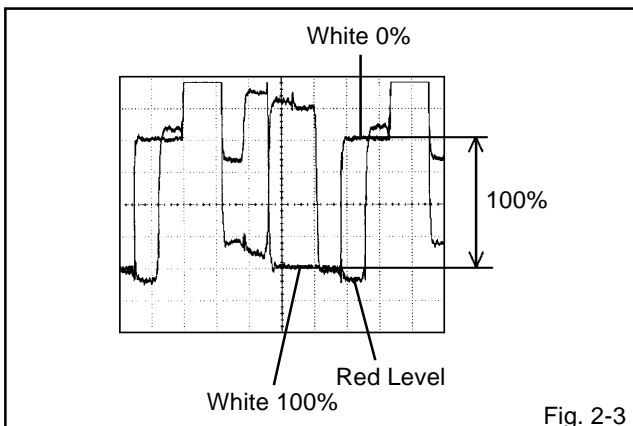

Fig. 2-3
6. Press the VOL. UP/DOWN button on the remote control until the red color level is adjusted to 110% of the white level. (**Refer to Fig. 2-3**)